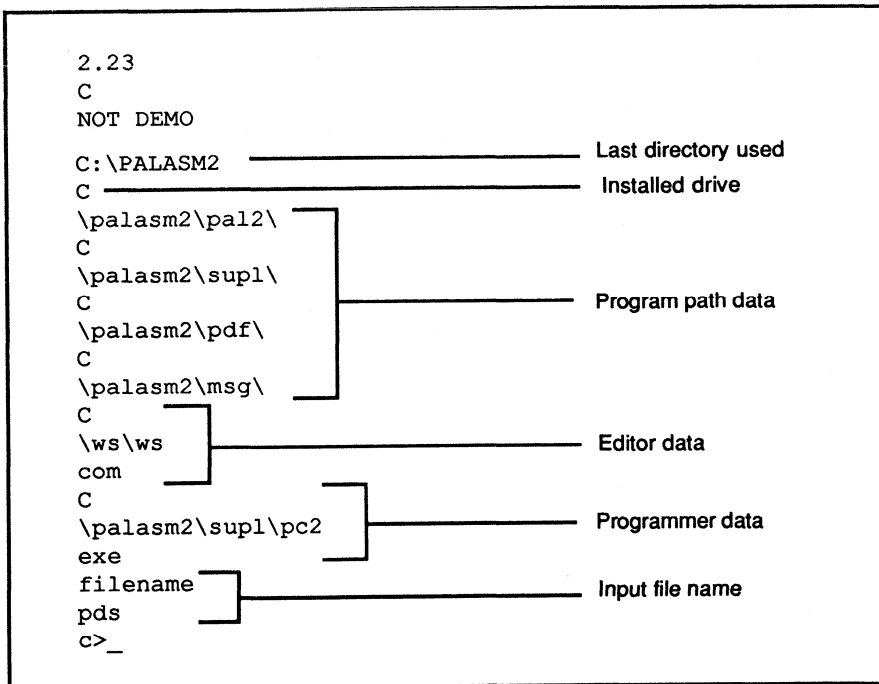

Figure 4-7
4. To the end of the file, add the filename of the supplementary program in the following format. Any change you make to the file must occur after the Input file name (see Figure 4-7).
Refer to Figure 4-7 for the MENU.SYS file format.